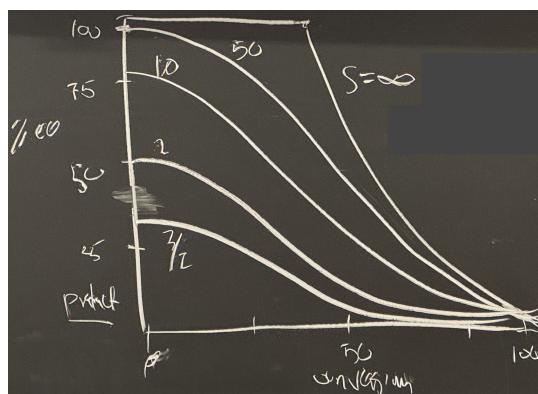

Figure 14.5: Product ee vs. conversion in a catalytic kinetic resolution.
- However, per Figure 14.5, this S-factor is not great.